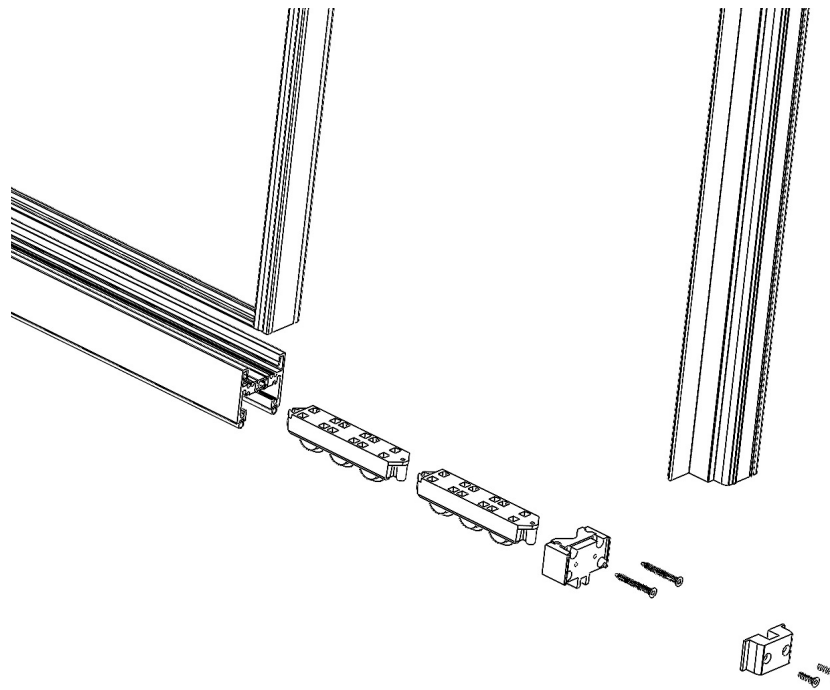

Figure 10
**Note: If you are installing a bi-parting door, you will have one (1) active lead panel and one inactive lead panel. The inactive lead panels are to be installed on the innermost track. The active panel lead will be installed to the left of center, as viewed from the exterior of the building (or however it is identified on the shop drawings). Fixed panels have one (1) interlock, no rollers and rest on the outermost track. Intermediate panels will have two (2) interlock stiles.**
4. The number of roller assemblies divided by the number of operable panels will determine how many rollers each panel will take. **Example:** A 4' wide panel may take four (4) roller assemblies; two (2) per side. A 5' wide panel may take six (6) roller assemblies; three (3) per side and so on.
5. Determine the number of roller assemblies needed per panel and connect by sliding one (1) roller assembly onto the other. Continue this process for all required rollers. Once complete, slide the end sweep onto the roller assembly and set roller assemblies in front of panel.
6. Taking care not to scratch or shift the lead panel over. With a pry bar, lift the panel high enough to slide the roller assembly system into place. Ensure that all rollers rest onto the track cap and roll freely. See **Figure 10**.